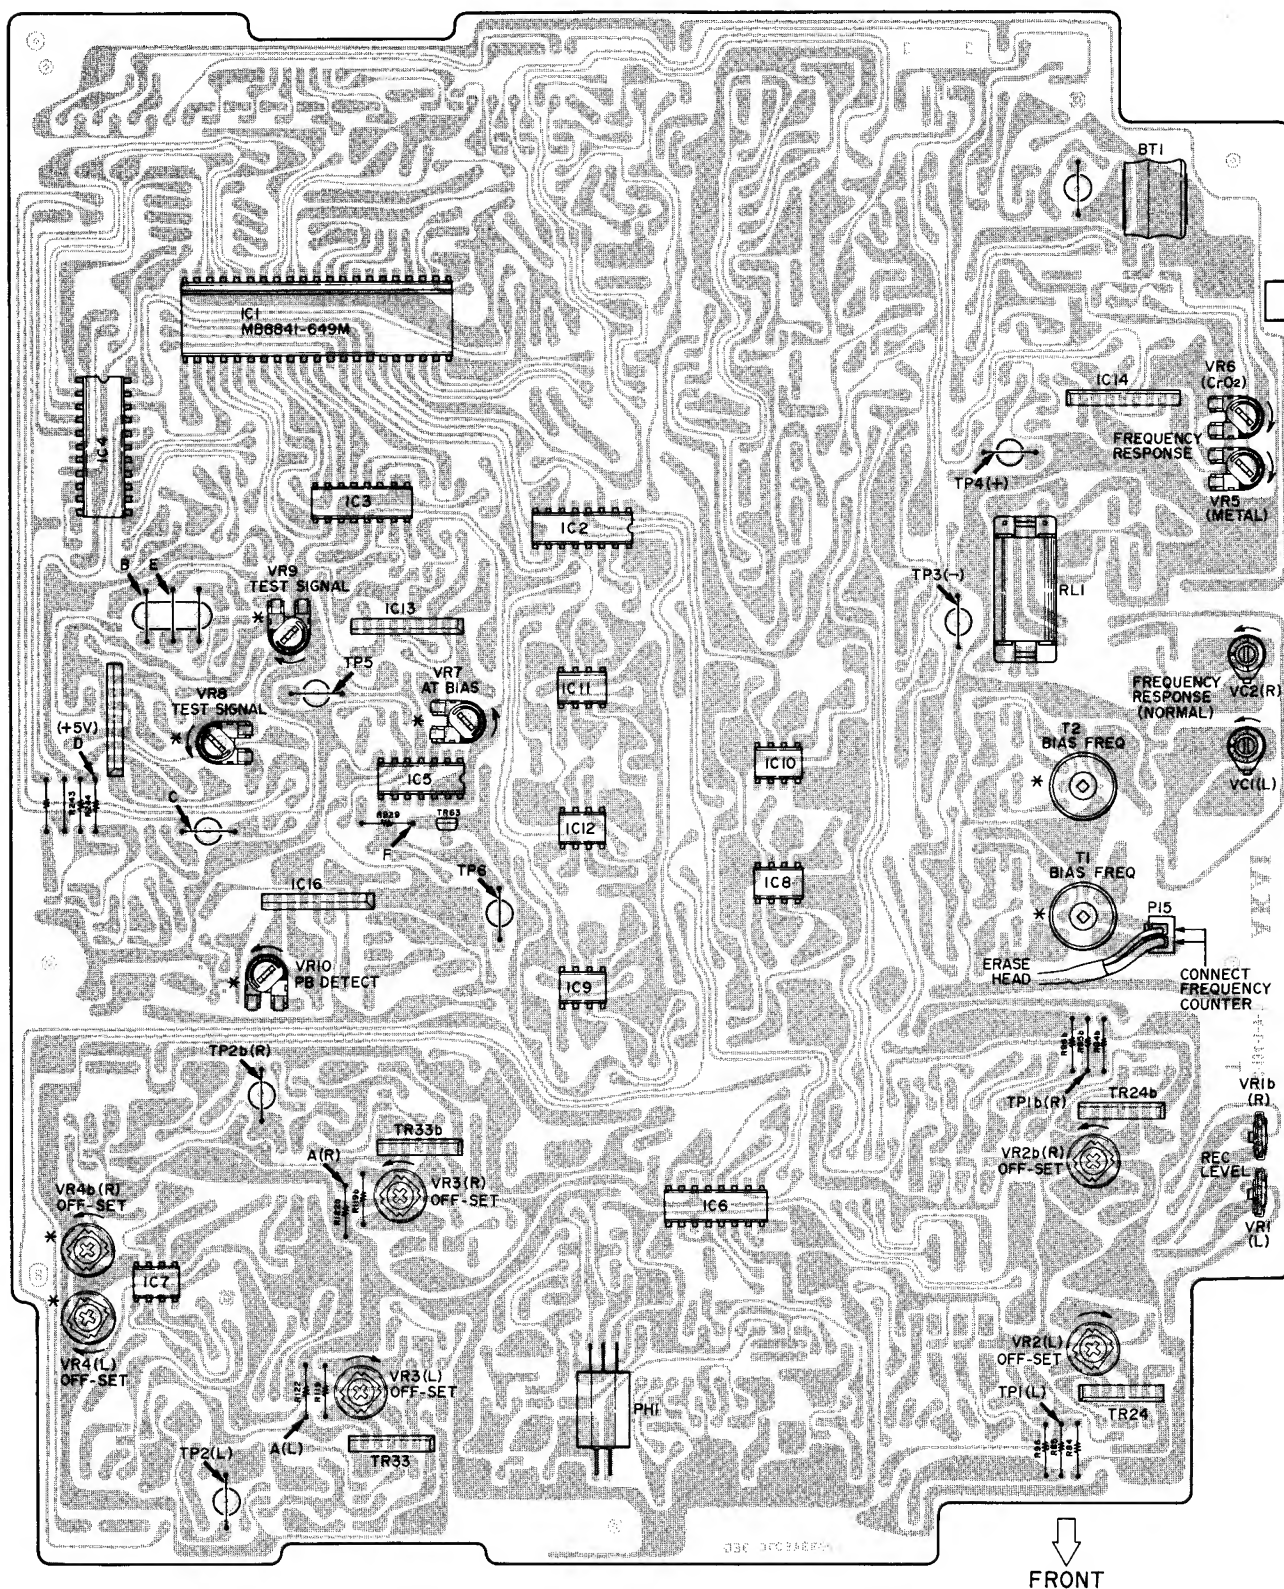

Fig. 2-17 Tuning PCB (Parts Side View)
(Fig. 2-17)
2. REC BIAS OSC ADJUSTMENT (Fig. 2-17)
- 2) Set VC1 and VC2 as shown in Fig. 2-17.
5. TEST SIGNAL ADJUSTMENT (Fig. 2-17)
6. AT (ATUO TUNING) BIAS STANDARD VOLTAGE ADJUSTMENT (Fig. 2-17)